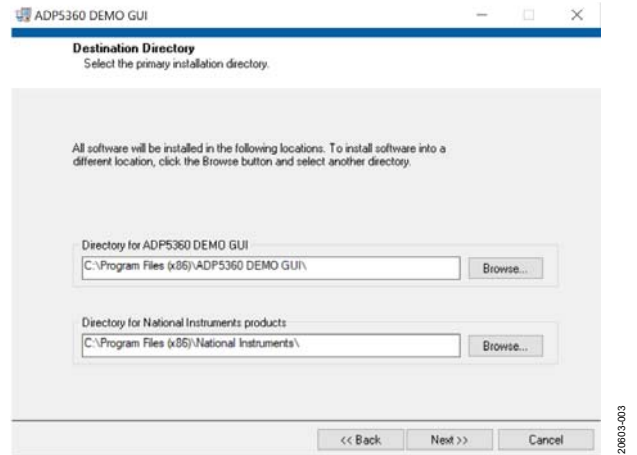

Figure 3. Choose Destination Location
2. Click the **Next** button to install the software to the default destination folder or click the **Browse...** button to choose a different file (see Figure 3).